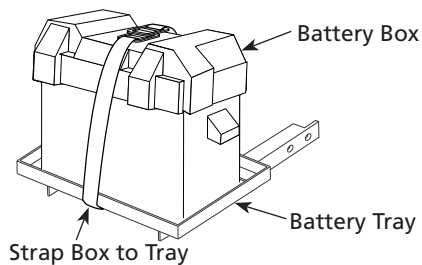

Figure 3 - Secure Box
- Put lid on battery box and secure with strap. Ensure strap fastens box tightly to tray (See Figure 3).